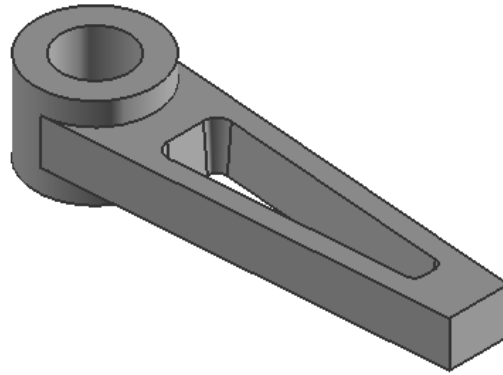

Figure 8-66 The model after creating the general pocket feature
8. Turn off the display of all the entities, except the model. The model, after creating the cut extrude feature, is shown in Figure 8-66.